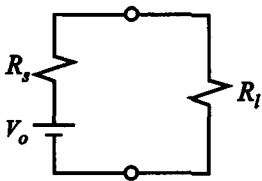

Figure 2.22. Source with a load.
- A. Figure 2.22 shows a Thevenin source with a load resistor R_l . Find the formula for the power in the load. Find the load resistance R_l that gives the maximum power. What is the maximum load power? As a check, it is a good idea to find the formula for the maximum available power for a Norton source with a source conductance G_s and a load conductance G_l . Your result should be equivalent to the Thevenin result.